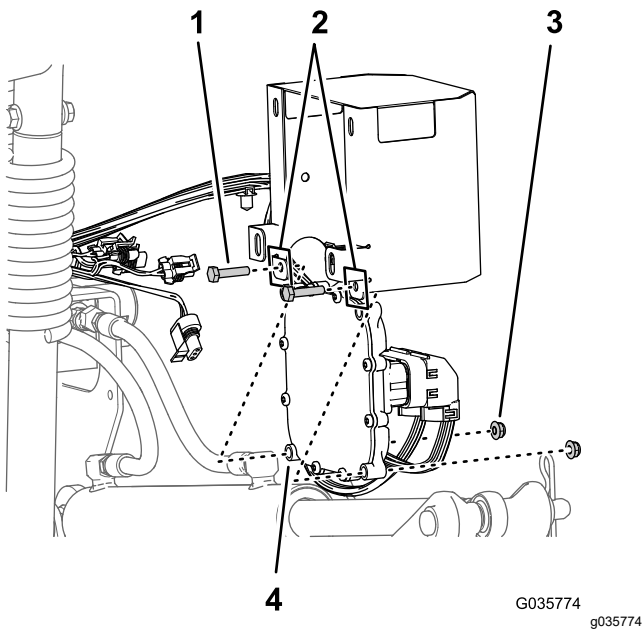

Figure 29
1. Align the electronic controller to the interior of the controller cover with the lower outboard mounting holes of the controller aligned with the holes in the lower rear flange of the cover (Figure 29)
2. Assemble the controller to the cover with 2 bolts (1/4 x 1-1/8 inches) and 2 flange locknuts (1/4 inch) as shown in Figure 29.